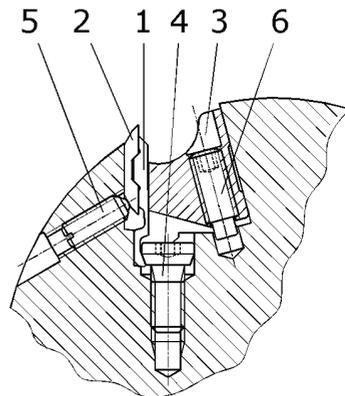

Fig.1
(See Fig. 1 through 3)
4. Do not remove the set pin (6) when changing the knife (see Fig. 1).
7. Carefully insert the reversed or new knife laterally. Be certain the knife carrier's (1) cam engages completely in the knife's groove, in order the correct radial position is obtained (see Fig. 1).
(See Fig. 1 and 4)
set screw only until its upper edge is flush with the threaded hole (see Fig. 1).
9. Slide reversed or new knife laterally into the knife seat. Make sure that the knife carrier (1) cam engages completely into the knife's groove, in order to guarantee the proper radial position (see Fig. 1).
(See Fig. 1 and 5)
1. Make absolutely certain that all individual components of the SINUS clamping system have been completely removed from both the opposing knife grooves in which the addition knife holders will be placed (see Fig. 1, pos. 1 to 6). If this is not the case, remove all individual components according to "Instructions for dismantling the SINUS clamping system".
3. Loosen the set screw (8) with an Allen key until the pressure pin (10) no longer projects laterally against the additional knife holder (11). Should the set screw inadvertently comes-out completely, the ball (9) and the pressure pin (10) may fall-